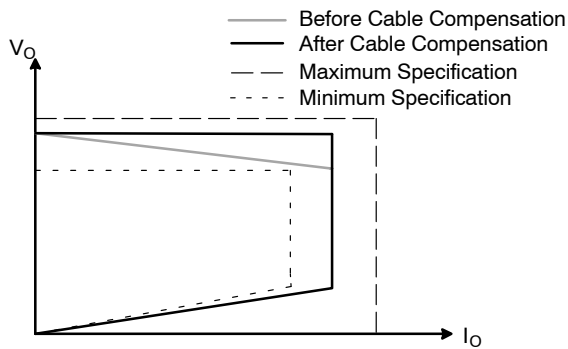

Figure 23. CV with CDC and CC V/I Curve at the Cable End
FAN105A modulates pulse width and switching frequency based on feedback signal auxiliary winding signal (VS) and current sense signal (CS). Extremely accurately Constant Voltage (CV) with Cable Drop Compensation (CDC) and Constant Current (CC) could meet strict requirement from market. The CV and CC output characteristic is shown as Figure 23. There are 4 levels (80 mV – 320 mV) choices in CDC compensation weighting that is easily set via external SMD resistor.